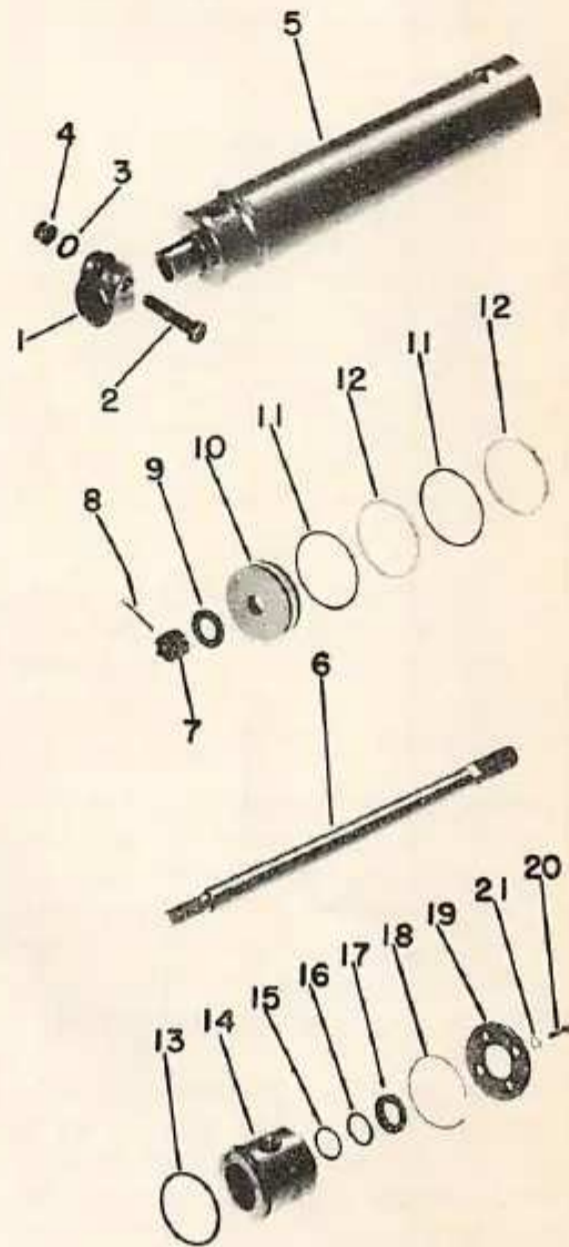

Fig. O53 — Exploded view of power steering cylinder used on four wheel drive models. Refer to Fig. O49 for schematic view of cylinder line connections.
To disassemble cylinder, refer to Fig. O53 and proceed as follows: Remove end plate (19), push bearing (14) into cylinder to expose snap ring (18) and remove the snap ring. Pull the piston rod (6), bearing and piston (10) from cylinder as an assembly. Hold rod from turning at flat near outer end, then remove cotter pin and piston retaining nut (7). Slide piston and bearing from inner end of rod. Remove the sealing rings and wiper from piston and bearing. Clean and carefully inspect all parts and renew any that are excessively worn, scored or damaged.